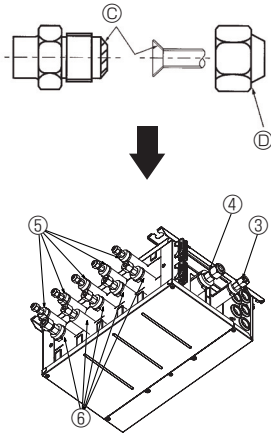

Fig. 7-2
- ⓐ Apply refrigeration oil to the entire (Fig. 7-2) surface of the flared seat.